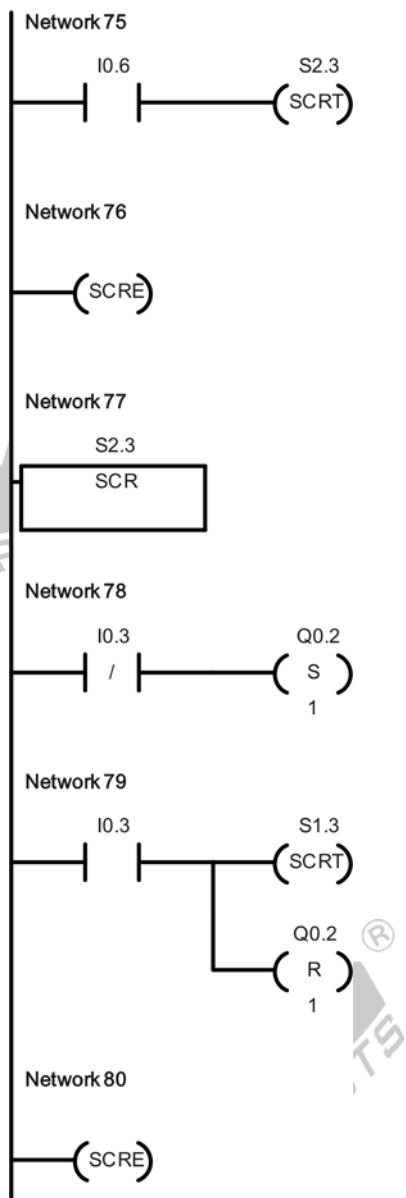

Fig. 9-5 Ladder diagram
6. Create a new project by selecting **File >> New** menu command. Complete the Ladder Program shown in Fig. 9-5.